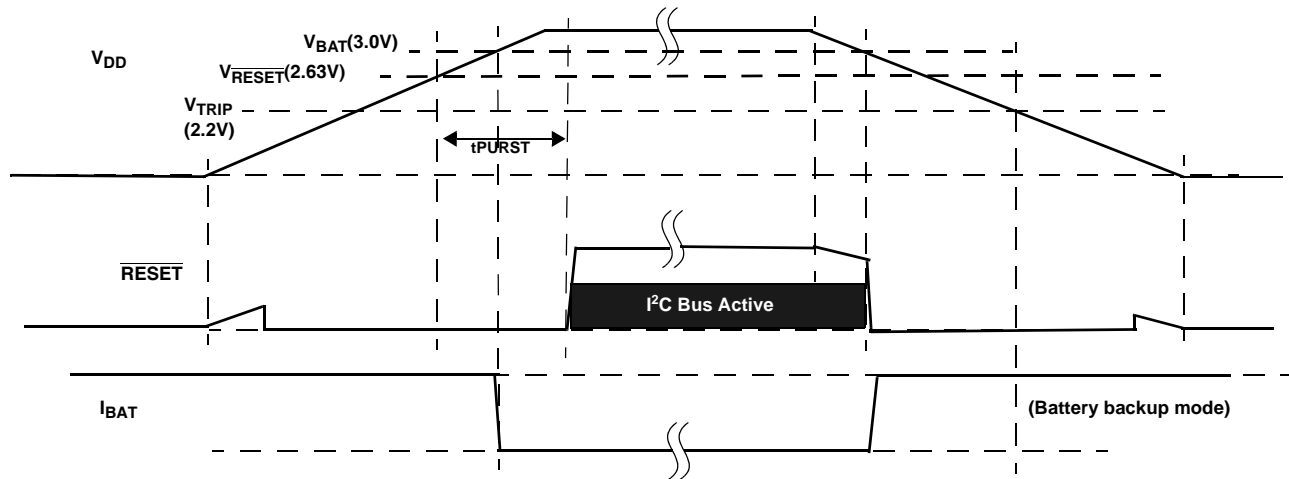

FIGURE 30. RESET OPERATION IN MODE D
- Mode D - In this mode the selection bits indicate switchover to battery backup at V_{DD} < V_{BAT}, and no I²C communications in battery backup. This mode is unique in that there is I²C communication as long as V_{DD} is higher than V_{RESET} or V_{BAT}, whichever is greater. This mode is the safest for guaranteeing I²C communications only when there is a Valid V_{DD}. See Figure 30.